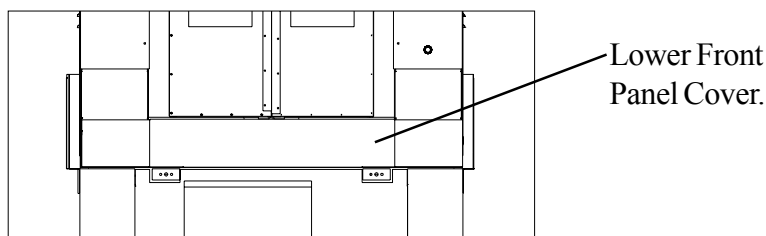

Figure-9A
STEP 17: Remove lower front panel cover in front of dryer (See Figure-9A). Take the front tilting guard with the opening toward the bottom and the flanges toward the dryer. Pivot hinges where they are straight with guards. Tilt guard to allow for hinges to be attached to bottom surface of front panel by aligning the weld nuts in the hinges with slots in the front panel. Use a #8-23 screw, lock washer, and flat washer to attach guard. The nylon rub plates on the front cover should be touching the outside of the side covers when the front cover is in position. The guard should swing freely after it is attached.